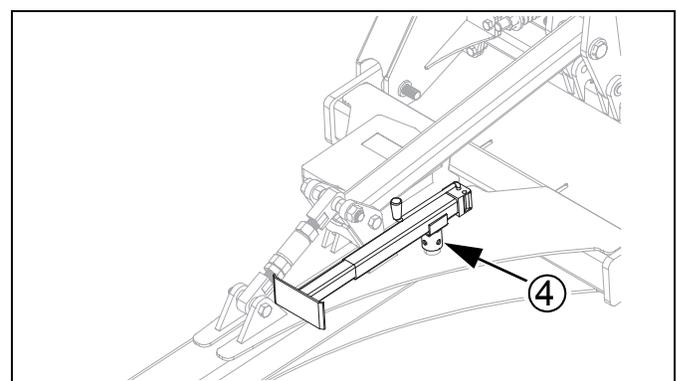

Figure 4
**Refer to Figure 4**
8. After hitching tractor to turbo max, store jack on storage stub (4) on the tongue.